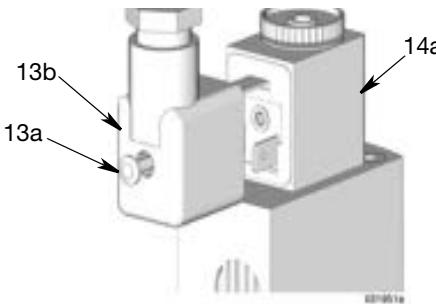

FIG. 36
7. Loosen screw (13a) on the back of the mini DIN solenoid connector (14a) and disconnect it from the solenoid connector (14a). Discard cord assembly (FIG. 36).
3. Reconnect the DIN connector (13b) to solenoid connector (14a) (FIG. 36).